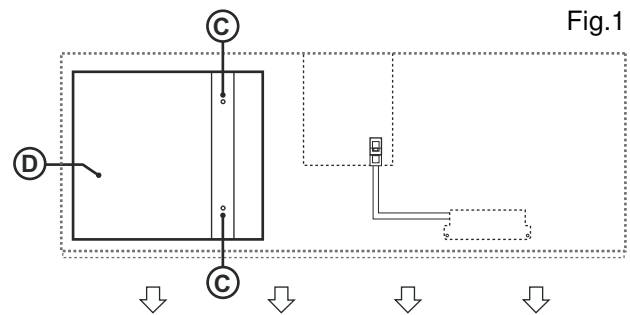

Fig.1
*In type "K" and "AKL" hoods, the chimney is packed next to the hood; in type "GK" hoods, the chimney is secured in the interior compartment and turned 90° (fig. 1); in type "AK" hoods, the chimney is secured in the interior compartment, in a central position in front of the suction motor (fig. 2).*